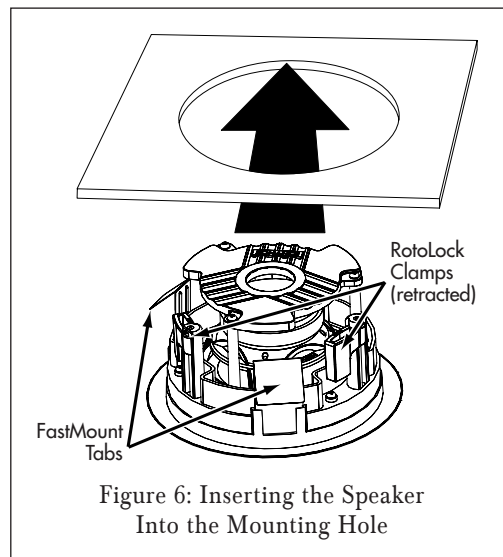

Figure 6: Inserting the Speaker Into the Mounting Hole
5. Make sure all the RotoLock clamps are in the full clockwise position so that they are tucked within the mounting hole's border. Insert the speaker into the hole in the wall (*Figure 6*). The RotoLock system can accommodate a maximum wall material thickness of  $1\frac{1}{4}$ ".